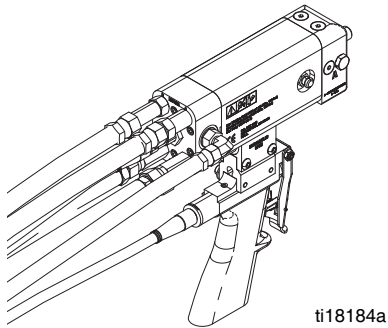

FIG. 9
11. Install chemical hoses to gun. See FIG. 5 on page 10 and FIG. 9.